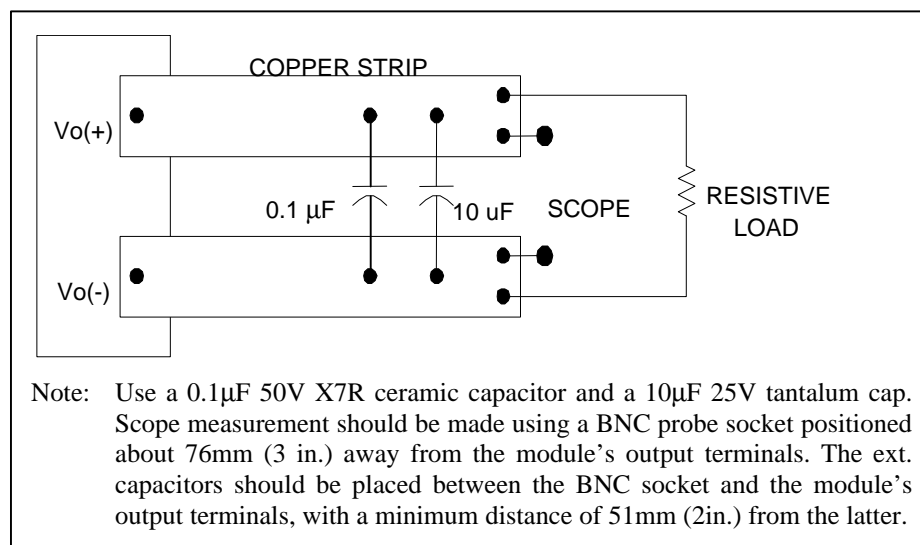

Figure 2. Peak to Peak Output Noise Measurement Setup.
3. See Figure 2 for Ripple and Noise test measurement setup. Output ripple may exceed max limits at high line condition.